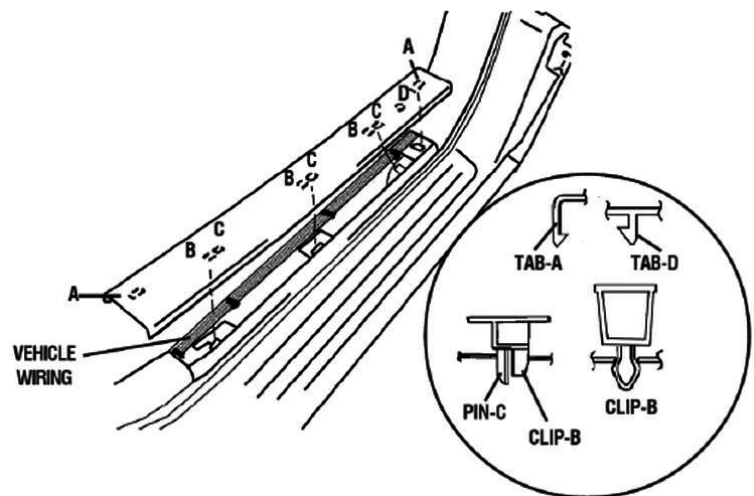

FIGURE 21
- 1.) PULL THE FRONT SCUFF PLATE UPWARD WHILE DETACHING TABS A, DETACH CLIPS B, PINS C AND D FROM THE BODY, AND THEN REMOVE THE INNER FRONT SCUFF PLATE. (SEE FIGURE 21)